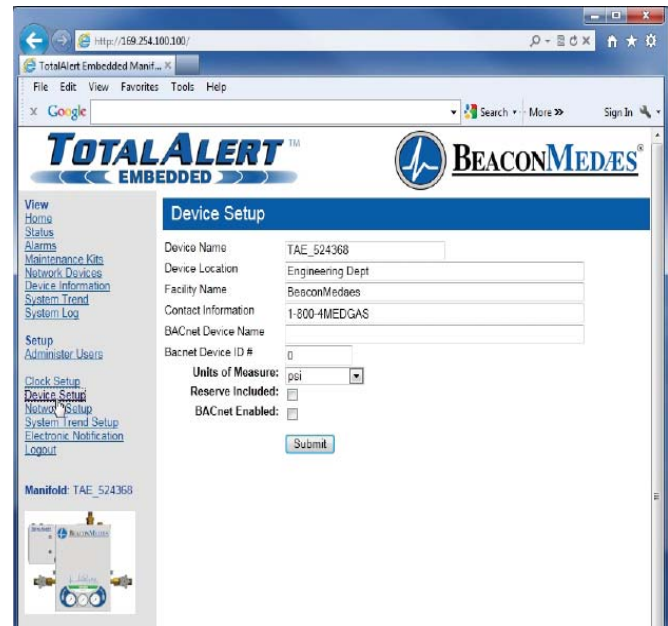

Figure 37: Device Setup
4. The left sidebar will now contain the setup links (Figure 37).
This Device Setup page (Figure 37) is used to configure the manifold name, location, facility name, and contact information.